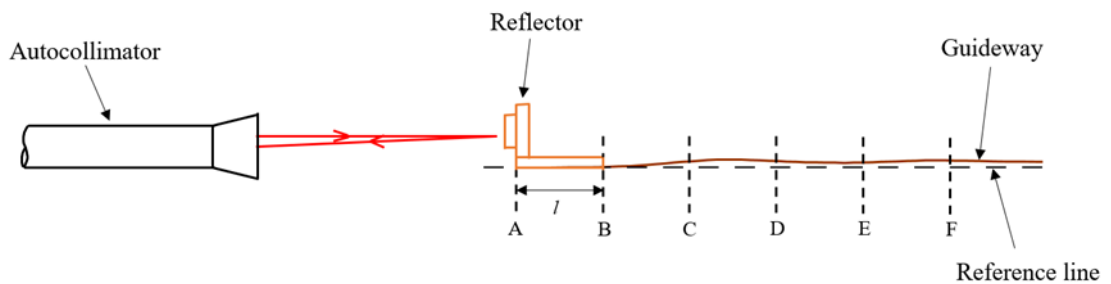

Figure 1[b]
1. [a] Give TWO (2) examples of products where straightness measurement is important. (2 marks)
- [b] An autocollimator was used to test the straightness of the guideway of a lathe machine as shown in Figure 1[b]. The length l of the reflector base is 100 mm. The readings taken at positions of the reflector at A, B, C, D and E are shown in Table 1[b].
- (i) Determine the deviation in straightness Δh at each of the positions A to F shown in Figure 1[b] measured from the reference line (correct to three decimal places). (6 marks)